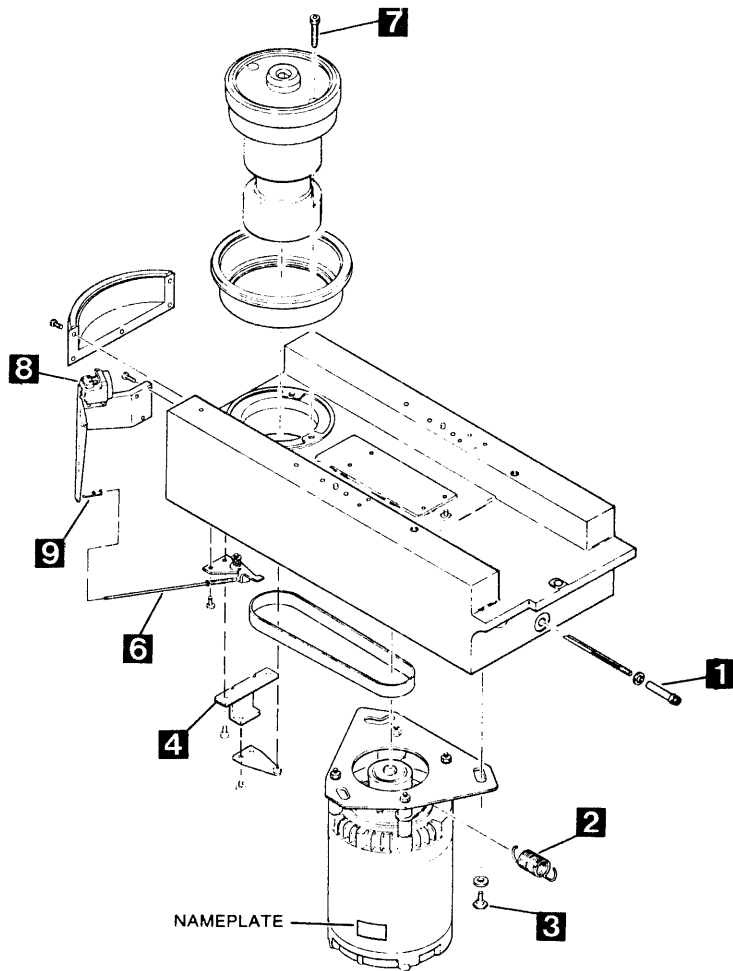

FIGURE 4-16. DRIVE MECHANISM
7. Loosen drive belt adjustment nut, [1] in Figure 4-16, and remove the drive belt from the motor pulley by "walking the belt upwards" from the left of the pulley and working it out of the motor plate. Let the belt hang loose from the spindle pulley.
9. Place a "spacer" (like that shown in Figure 4-15) on cabinet floor under motor. With this spacer capable of supporting the weight of motor, remove three bolts, [3] in Figure 4-16, holding drive motor to deck plate.
2. Remove spindle grounding assembly, **4** in Figure 4-16.
3. Remove spindle grounding assembly, **4** in Figure 4-16.